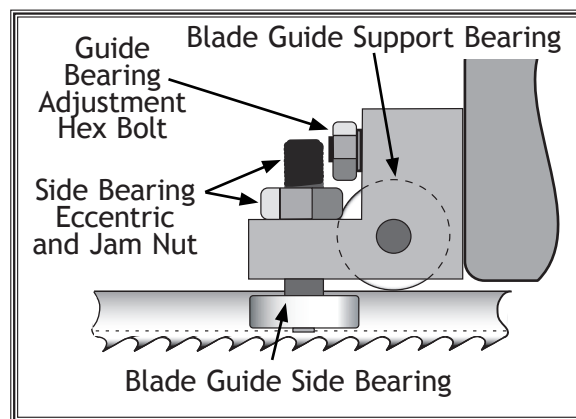

Figure 21. Blade guide adjustment locations.
The blade guide side bearings support and twist the blade straight so the blade will enter the workpiece perpendicular to the table surface (see Figure 21). The blade guide support bearings prevent blade twist by stopping the blade from being pushed back during a cut. Both adjustments are critical for correct saw operation.
4. Adjust the blade guide housing so the support bearing rests against the rear of the blade, as illustrated in Figure 21.